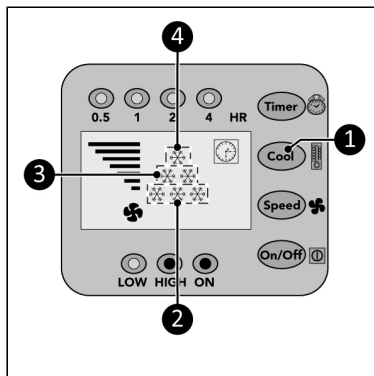

Figure 30.
1. Press the Cool button (Figure 30, pos. 1) repeatedly to set the required ambient temperature:
- 28 °C, the display will show 1 cool indicator (Figure 30, pos. 4).
- 25 °C, the display will show 2 cool indicators (Figure 30, pos. 3).
- 22 °C, the display will show 3 cool indicators (Figure 30, pos. 2).
- <22 °C, the display will show 6 cool indicators (Figure 30, pos. 2, 3 and 4).